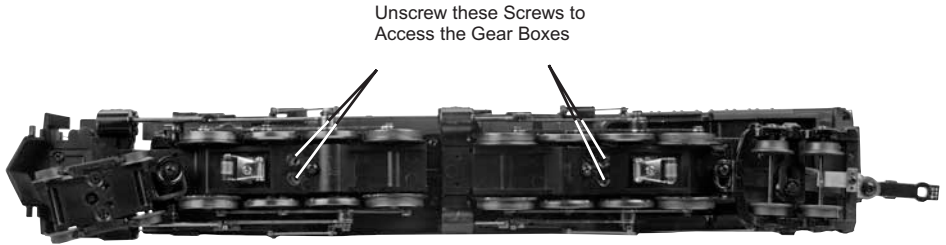

Figure 9: *Motor Mount Screws*
2. Remove the boiler by removing the body mounting screws shown in Fig. 9
3. Remove the Phillips screws (marked “GREASE” (Fig. 9)) and the gearbox cover screws.
You should also grease the leading and trailing locomotive truck tongues to enhance their ability to slide on the chassis. Follow the grease points shown on Fig. 9.